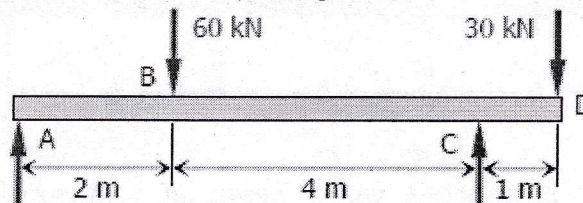

fig.1
- Q1 a) A beam  $ABCD$  with an overhang at one end supports a 60 kN and 30 kN point load at B & D respectively as shown in fig.1. Draw the shear-force and bending-moment diagrams for this beam. [6]